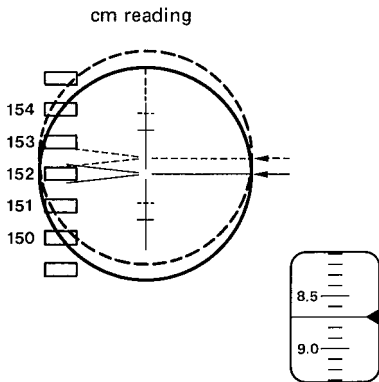

Fig.6.4
- 1) Mount the OM5 on the telescope of the B20/B21 and push the locking lever fully forward to lock it. (The lens hood ❶ should be retracted.)
- 2) Turn the micrometer knob to move the line of sight until the graduation mark on the staff comes to the middle point between the two wedge reticle lines for an accurate reading, as shown in Fig.6.4.